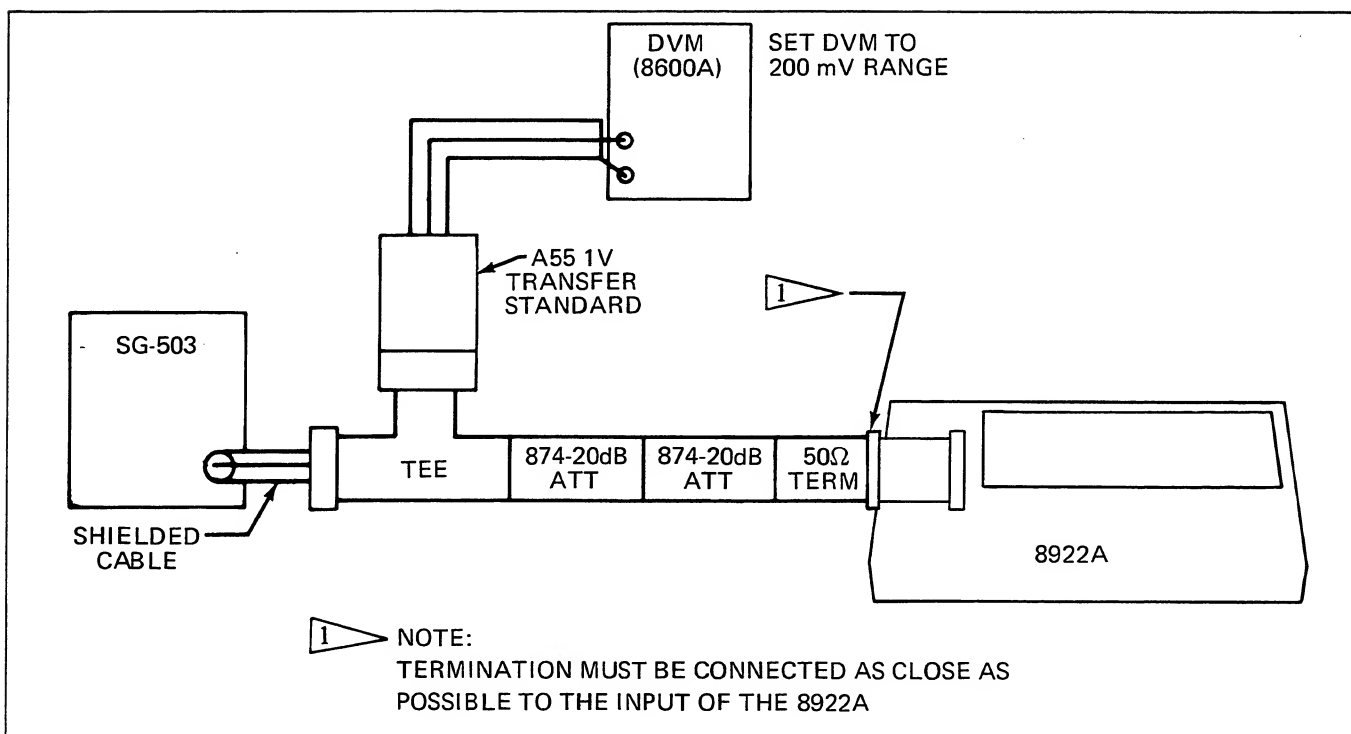

Figure 4-7. High Frequency Calibration
1. For the ranges shown in Table 4-8, adjust the amplitude of the leveled generator at 50 kHz to establish a reference (refer to Figure 4-7, for the test